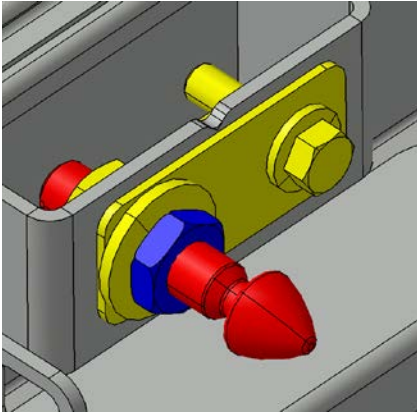

FIGURE 63
15. Use the pin to adjust the door so it is even with the adjacent steel sheet. Screw or unscrew the pin as required and then apply final tightening to the jam nut (FIGURE 63).